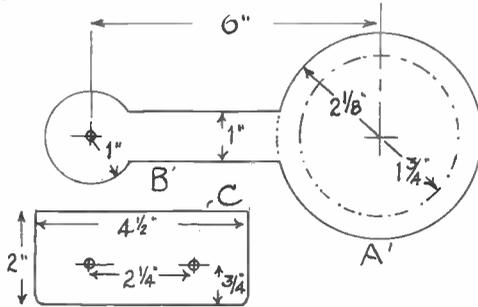

Fig. 1
For the single variety cut a disc of $\frac{1}{2}$ in. hardwood to diameter given at (A) Fig. 1 (ignore the arm extension). Round off the edge of the disc and mark the dotted circle shown. On this, mark off thirteen points, equal distances apart, and on each point bore a $\frac{3}{8}$ in. hole right through.
In the smaller disc at the end of the arm extensions, bore a $\frac{1}{2}$ in. hole through the wood. From $\frac{1}{2}$ in. wood, cut two of (C) Fig. 1 and where indicated, bore $\frac{1}{2}$ in. holes. The hole in both parts should be